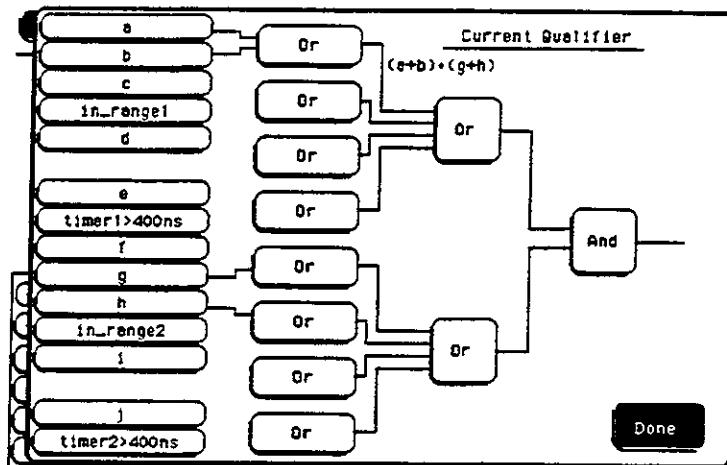

Figure 6-2. Complex qualifier
The qualifier for the state trigger subsystem can be terms A through J, Timer 1 and 2, and Range 1 and 2. In addition, qualifiers can be the NOT boolean function of terms, timers, and ranges. The qualifier can also be an expression or combination of expressions as shown below and figure 6-2, "Complex Qualifier," on page 6-11.
- An expression must map into the combination logic presented in the combination pop-up menu within the STRigger menu (see figure 6-2 on page 6-11).
Figure 6-2 shows a complex expression as seen in the State Trigger menu.
Figure 6-2 is a front panel representation of the complex qualifier (a Or b) And (g Or h). The following example would be used to specify this complex qualifier.
The terms A through J are defined by the TERM command. The meaning of IN_RANGE and OUT_RANGE is determined by the RANGE command. Expressions are limited to what you could manually enter through the State Trigger menu. Regarding parentheses, the syntax definitions below show only the required ones. Additional parentheses are allowed as long as the meaning of the expression is not changed. See figure 6-2 for a detailed example.
A detailed example is provided in figure 6-2 on page 6-11.
Expressions are limited to what you could manually enter through the State Trigger menu. Regarding parentheses, the syntax definitions below show only the required ones. Additional parentheses are allowed as long as the meaning of the expression is not changed. A detailed example is provided in figure 6-2 on page 6-11.